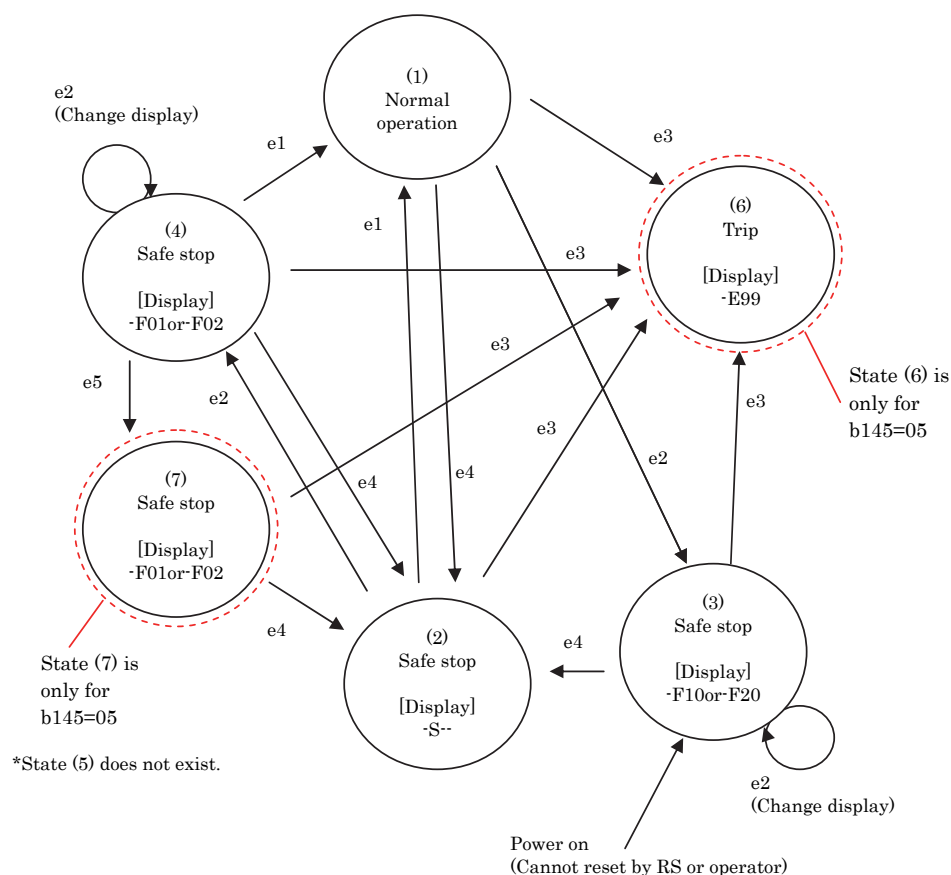

Fig. Ver.3.1-2 State transition diagram
b146 can adjust the delay time that specifies time to transit from state (4) to state(7) depicted in fig. Ver.3.1-2. This parameter is valid only when b145=05. Once the state transits to state (7) in fig. Ver.3.1-2, it is necessary to active (open) both GS1 and GS2 again (to state (2)), and then deactivate (close) both GS1 and GS2 in order to return to normal operation (state (1)).
- The table Ver.3.1-4 below shows the newly supported monitor display content and error codes related to the parameter b145. Refer to table Ver.3.1-5 and fig Ver.3.1-2 together.
*3: Refer to fig. Ver.3.1-2 state transition diagram, for the details of each state.